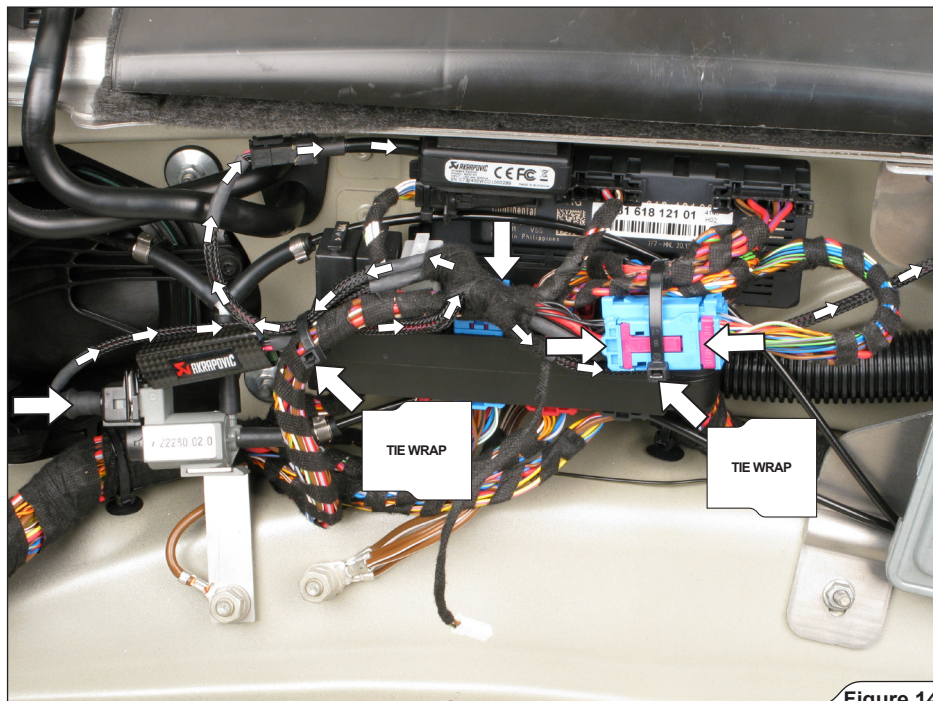

Figure 14
10. Connect the Akrapovič wiring harness between vehicle's ECU unit and stock wiring blue connector, connect the black connector to the valve and rout the harness as shown (**Figure 14, 15**).